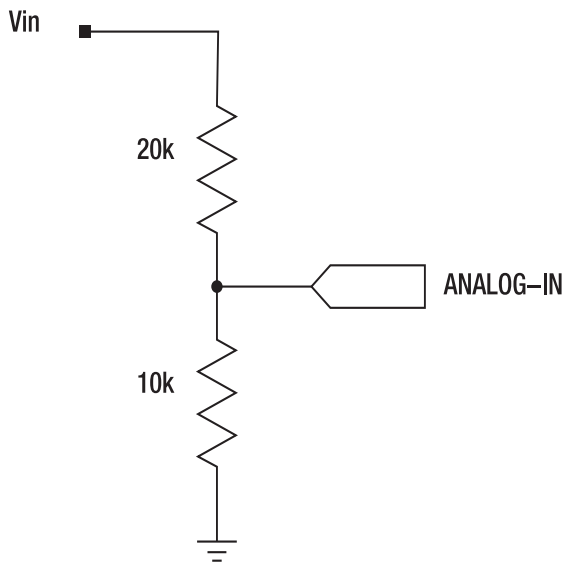

Figure 16-9. A simple voltage divider
Figure 16-9 shows two resistors connected in series in what is called a “voltage divider.” The voltage applied to the top of the divider is 15V and, intuitively, we know that all the resultant current must disappear within the divider circuit (ignoring what we tap through the output connection). It follows, then, that the voltage across each resistor must be some fraction of the input voltage—the fraction being dependent on the resistor value.
■ **Note** A variable resistor, or “pot,” forms a voltage divider if wired in a similar manner to that in Figure 16-9. One end of the pot goes to 5V, the other end to ground, and the wiper (typically the center pin) to the Arduino input. This can provide an inexpensive way of adding a knob to a project to set some value.